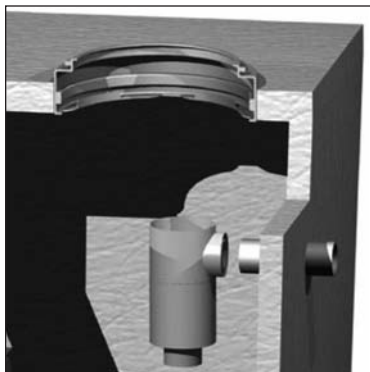

Figure 3
1. Before installation, dry fit the filter case (figure 3) on the outlet pipe of the primary septic tank to make sure it will be centered under the access opening. If not, solvent weld (glue) additional pipe to the outlet pipe so that the filter case will be centered.